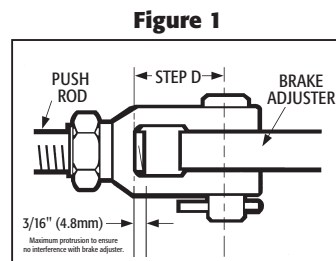

Figure 1
D. Measure and record the length of clevis to be used. This measurement should be taken from the center of the clevis pin hole, to the bottom of the yoke assembly (See Figure 1).